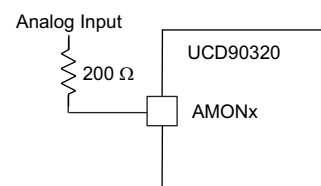

Figure 2. Example of Analog Inputs
- For UCD90240, UCD90320 and UCD90320U, TI recommends maintaining at least a 200- $\Omega$  resistance between a low-impedance analog input and an AMON pin. For example, when monitoring a rail voltage without a resistor divider, place a 200- $\Omega$  resistor in series between the rail output and AMON pin, as shown in Figure 2.